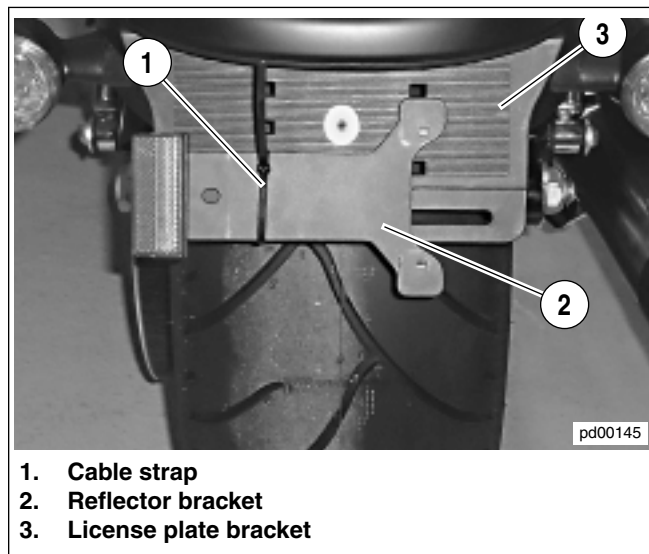

Figure 1. License Plate Reflector Bracket:
1. See Figure 1. Cut cable strap (1) and remove reflector bracket (2) from license plate bracket (3). Discard cable strap.